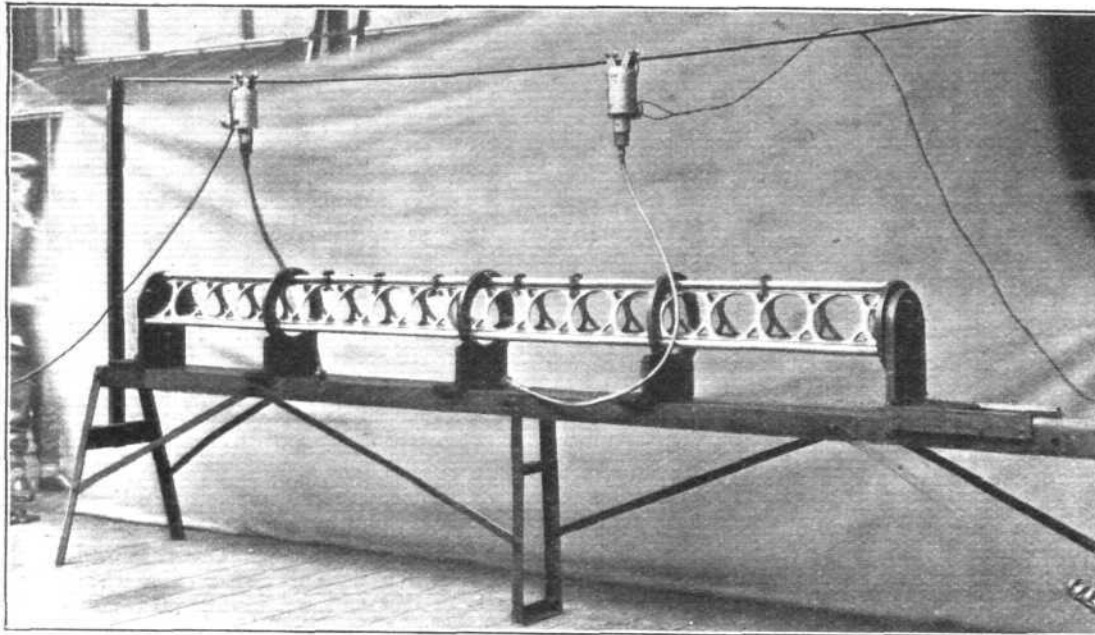

Fig. 22. A ridge
**Ridge Girders.**—These consist of Duralumin flanged webs and bulbous booms. The webs and booms are cut to exact length and are then assembled and put in a jig (Fig. 22) which has standard plug ends to suit the triangular form of the girder. The drilling and partial riveting is done in this jig, and the girders are then removed and final riveting completed on the bench by pneumatic hammers.